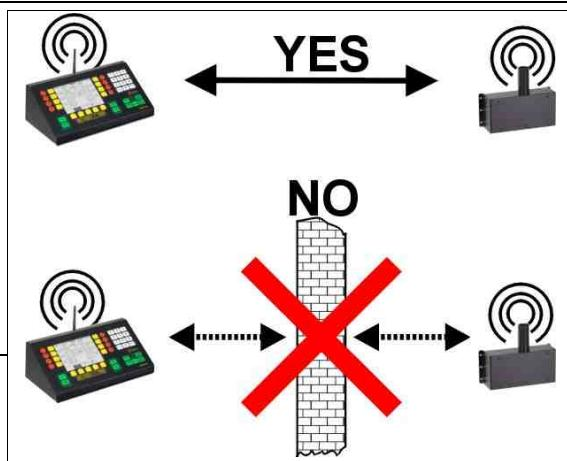

Fig. 5: Position of the Radio Receiver
- there are no visible obstacles between the Radio Receiver and the Command Console (Fig. 5);
2. Eliminate any obstacles that may be present (metal structures, people, equipment, etc.) between the Console and the Receiver (Fig. 5).